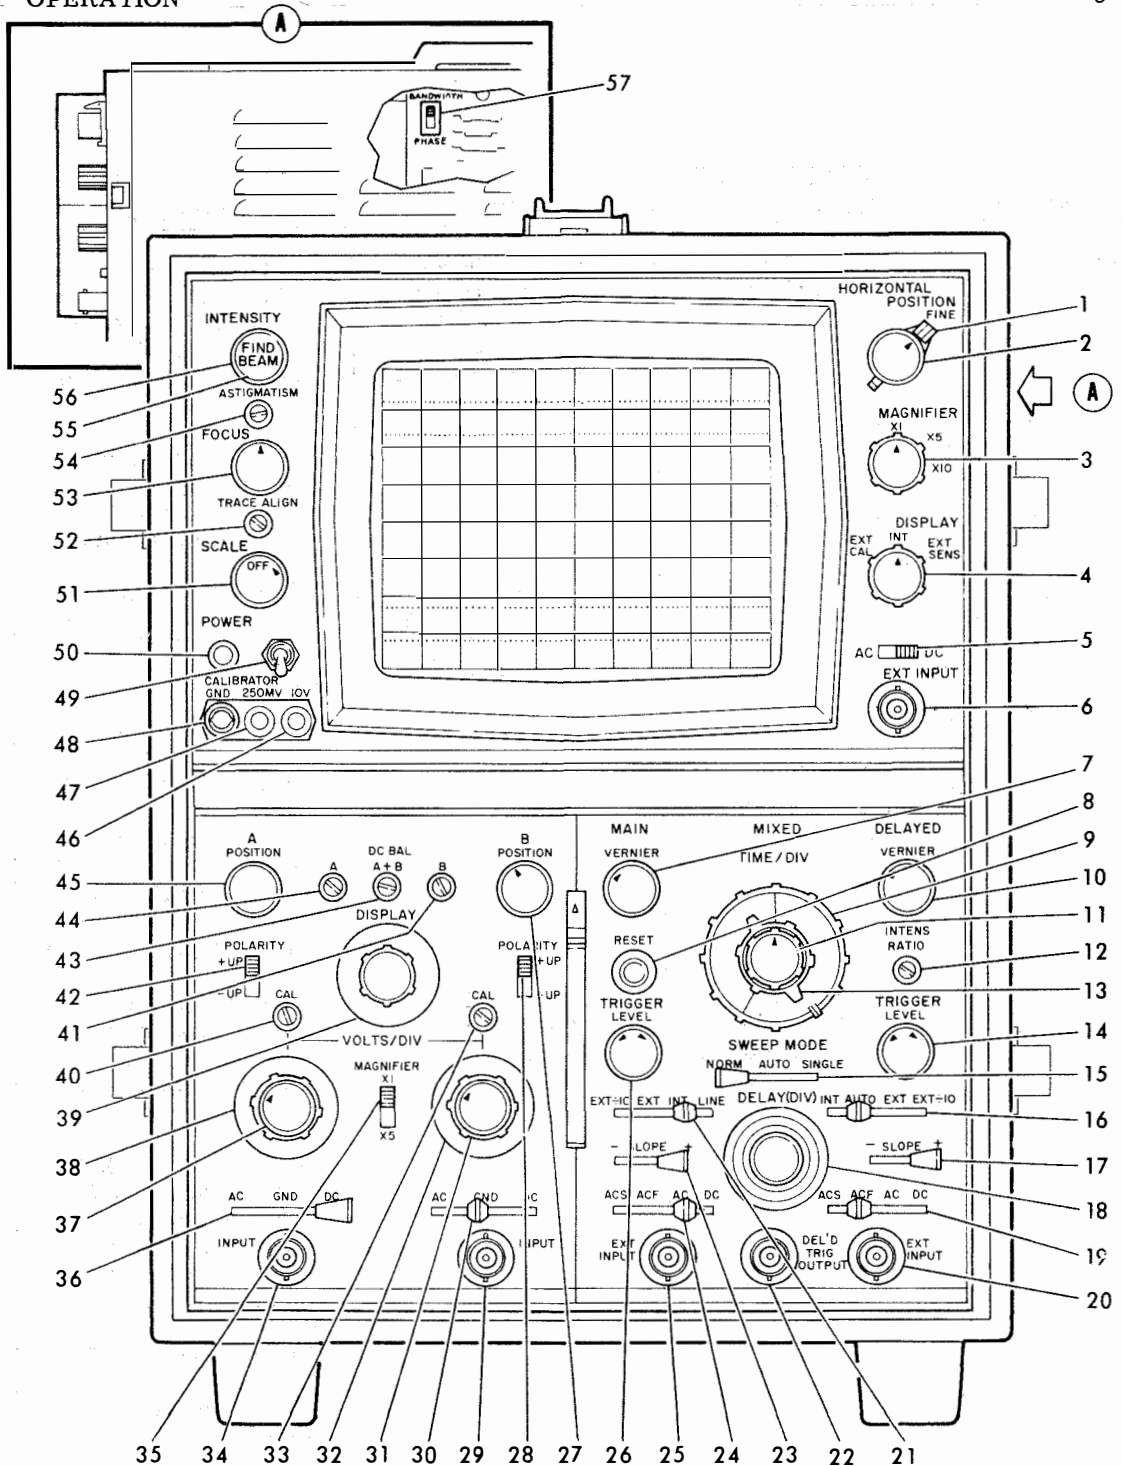

Figure 3-1. Front-Panel Controls and Connectors
a. FRONT-PANEL CONTROLS AND CONNECTORS. - Figure 3-1 identifies all front-panel controls and connectors. Table 3-1 lists the description and function of these controls.